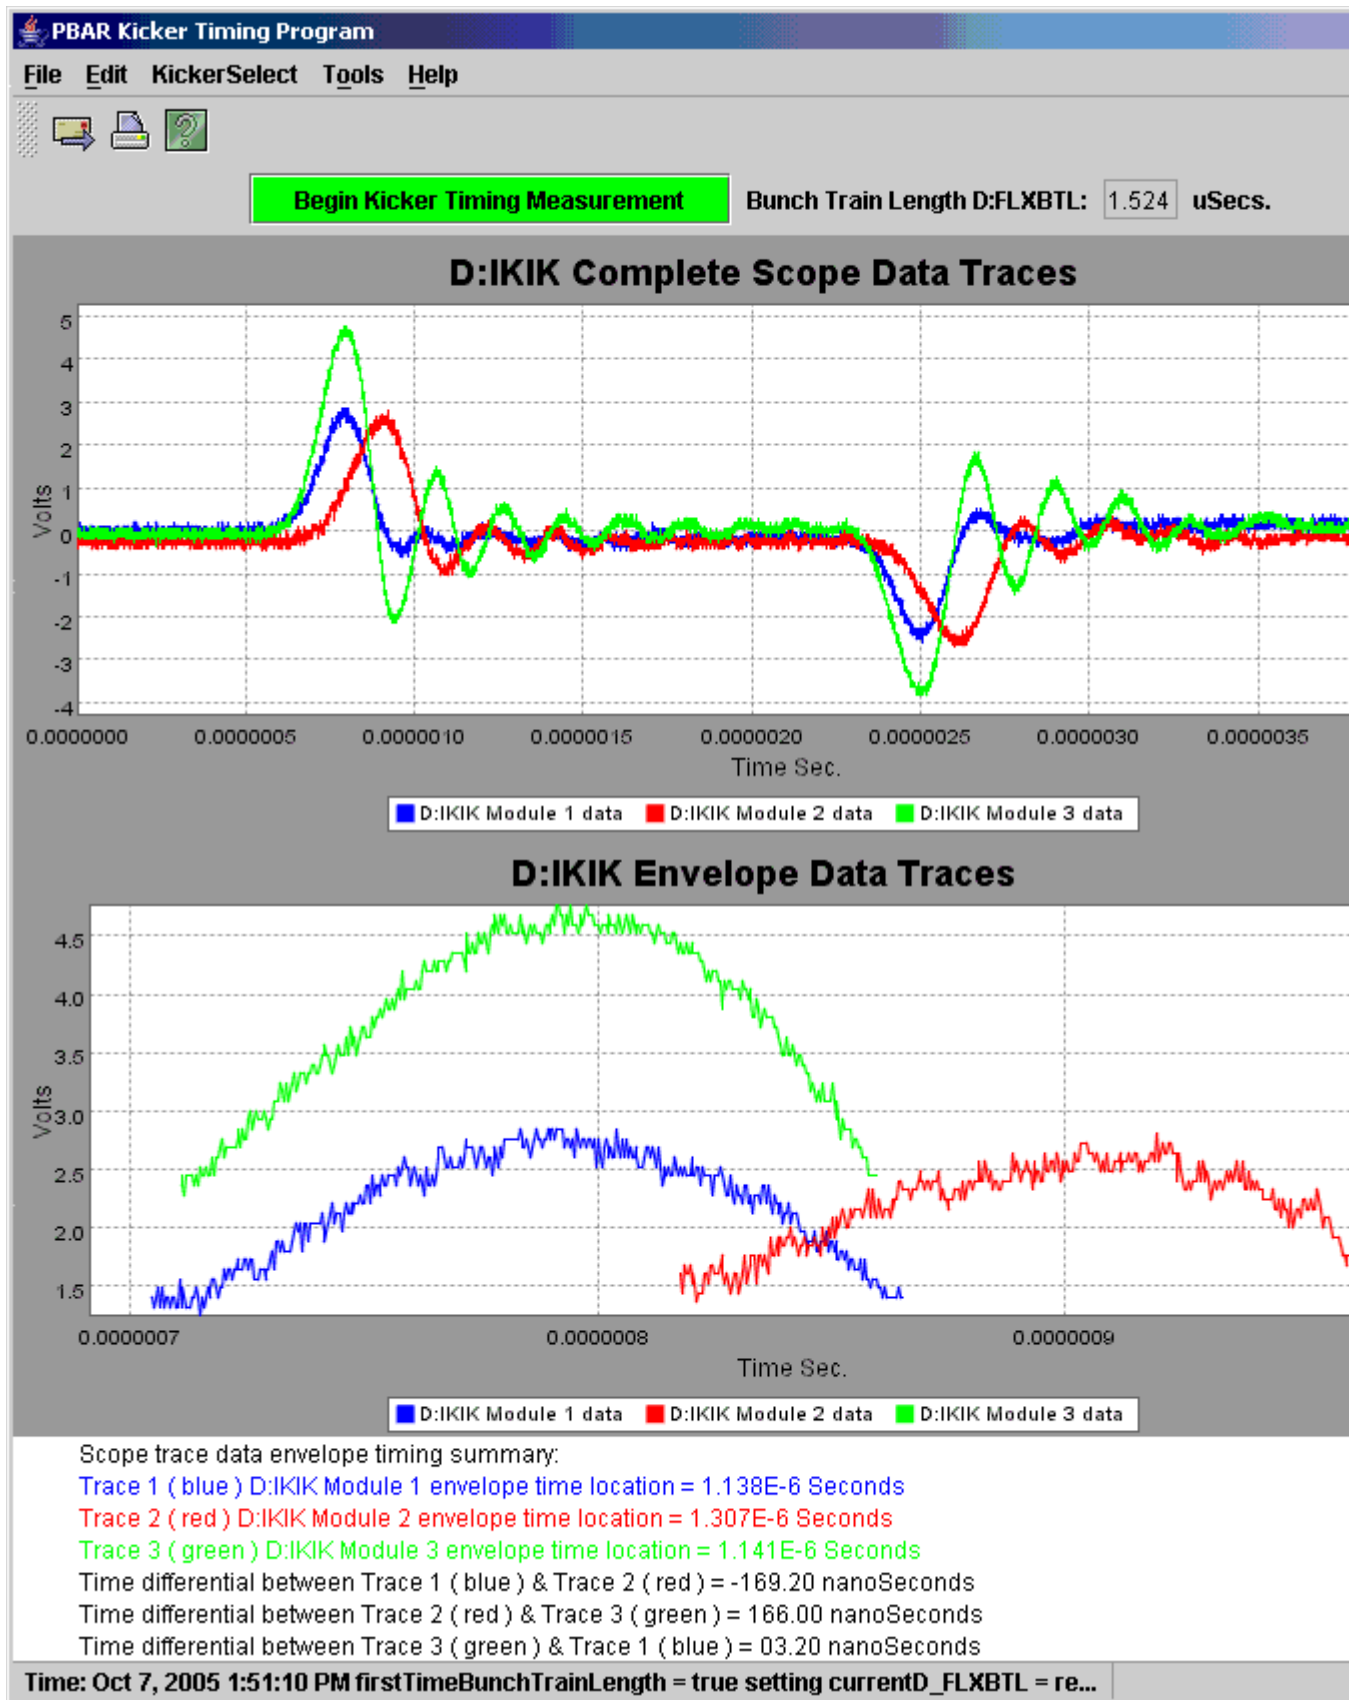

Figure 16: The Pbar Kicker Timing Program shows
6. Click on the green box that is labeled "Begin Kicker Timing Measurement" as shown in Figure 16. Note the value of D:FLXBTL.
Figure 16, it is clear that the three traces are closer to being aligned after the tuning was completed.